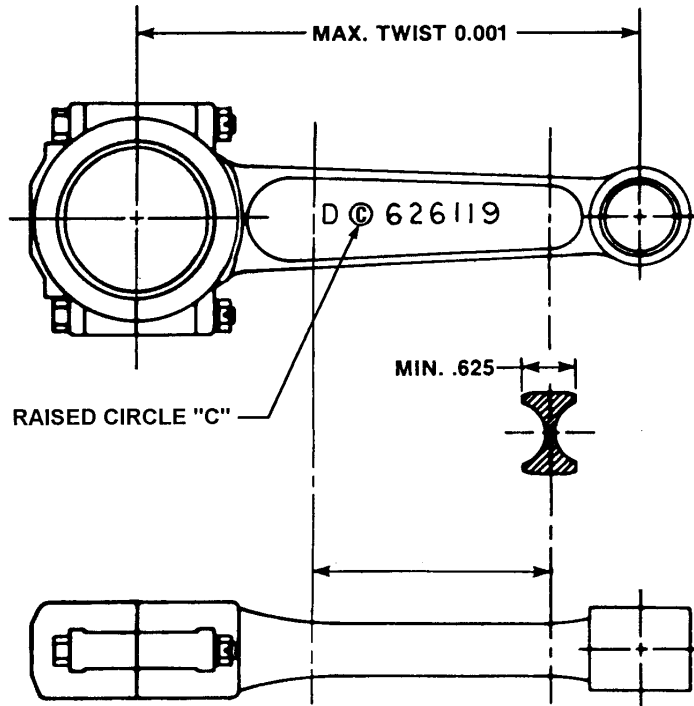

FIGURE 1. CONNECTING ROD.
- Inspect each connecting rod while it is positioned at its maximum stroke to allow clearance from the crankcase. Measure the beam width as indicated in Figure 1 and record the forging number.
- Any connecting rod that has a beam width less than .625 inch must be replaced. See Figure 1.